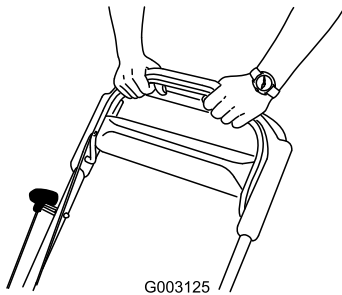

Figure 24
3. Hold the blade control bar against the handle (Figure 24).